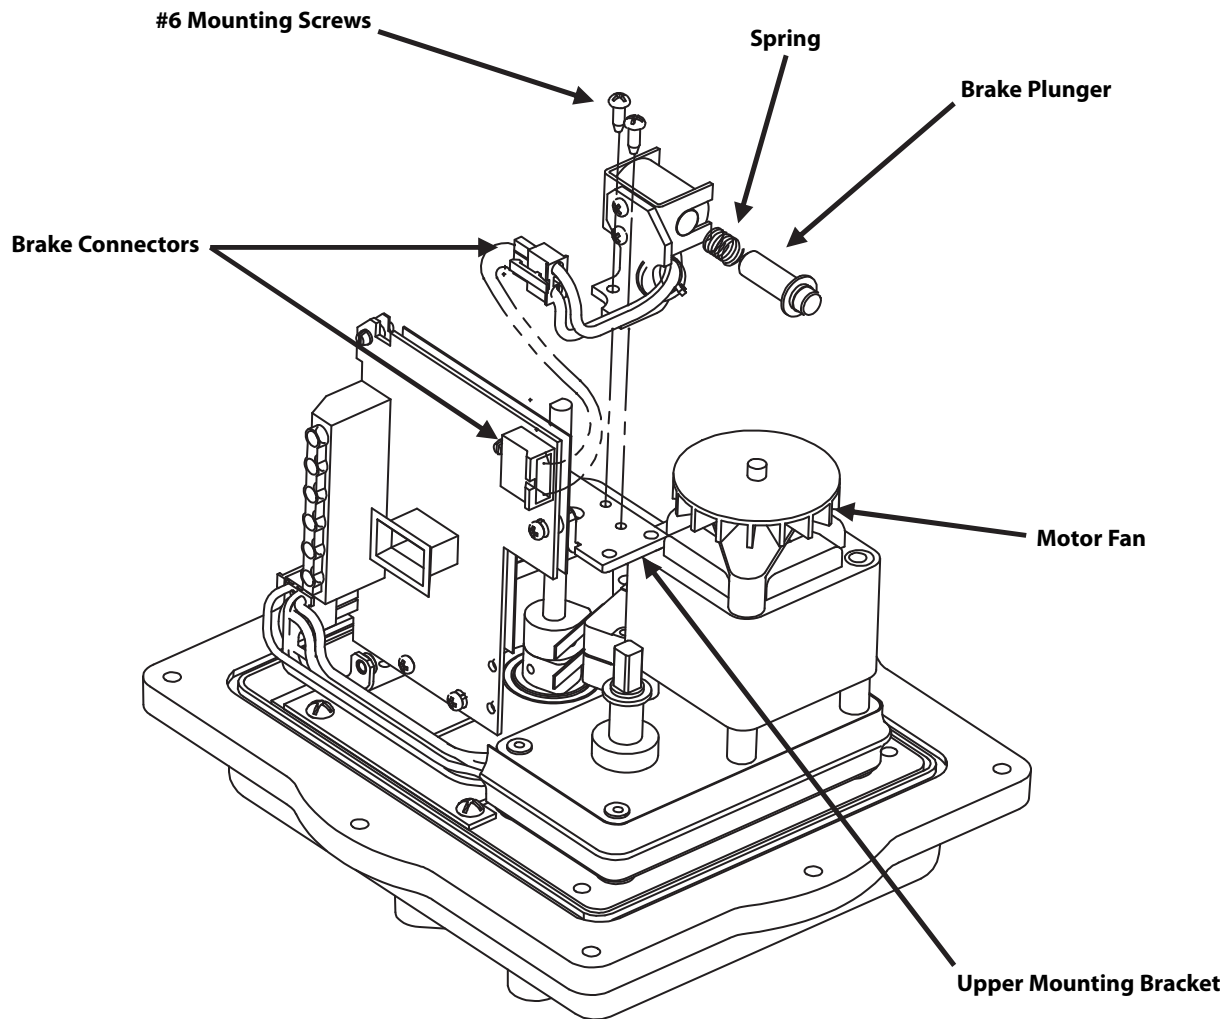

Figure 2
1. Place spring over the pointed end of the brake plunger shaft. Insert the pointed end of the plunger into the round hole in the brake solenoid assembly where indicated in **(Figure 2)**.